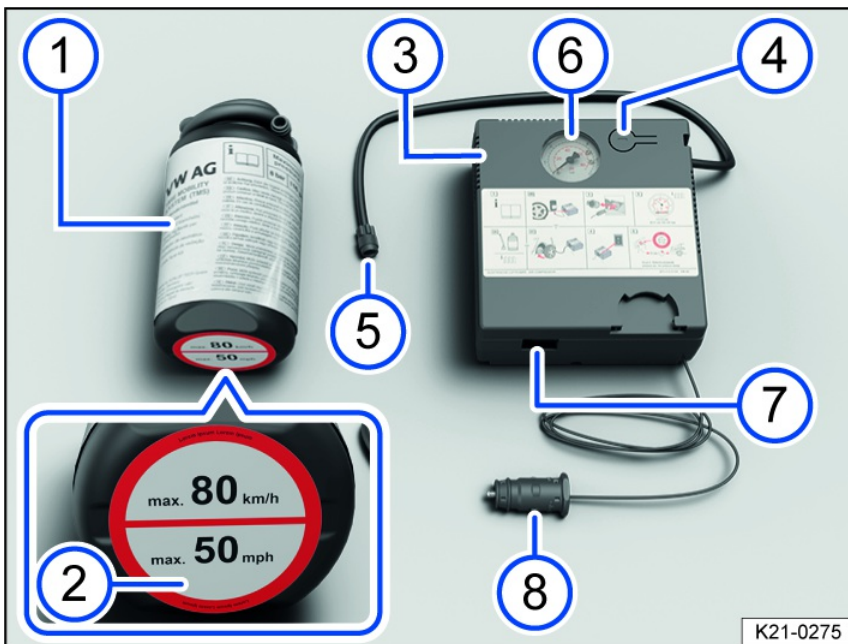

Fig. 183 Tire mobility set components (general example).
1. Stick the label from the tire mobility set *fig. 183* in the field of vision of the driver on the instrument panel.
3. Shake the tire inflation bottle *fig. 183* vigorously back and forth a few times.
4. Screw the compressor tire inflation hose *fig. 183* securely onto the tire inflation bottle *fig. 183* valve.
5. Screw the tire inflation hose of the tire inflation bottle *fig. 183* securely onto the tire valve.
6. Hold the bottle upside down and fit the top of the tire inflation bottle into the notch on the compressor *fig. 183*.
7. Place the compressor *fig. 183* together with the tire inflation bottle *fig. 183* on an even surface.
9. Insert the 12-volt plug *fig. 183* into a 12-volt-socket in the vehicle ⇒ *Sockets in the vehicle*.
10. Switch the compressor on with the ON and OFF switch *fig. 183*.
2. Connect the tire filler hose *fig. 183* again and read the tire pressure off the tire pressure gauge *fig. 183*.